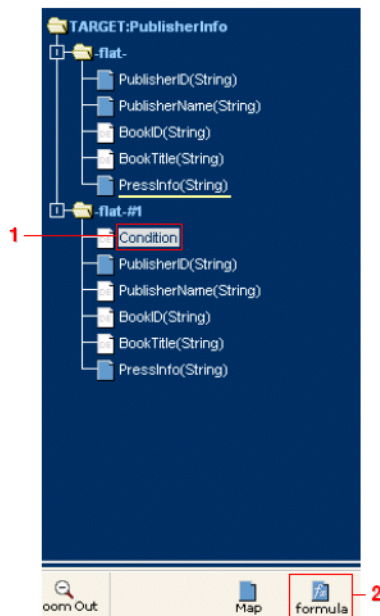

Figure 22-7. The **Formula** button launches the Formula Builder, which is where you can configure your condition.
- 2 Click the **Formula** button to launch the Formula Builder, where you will configure the condition (see Figure 22-7 below).